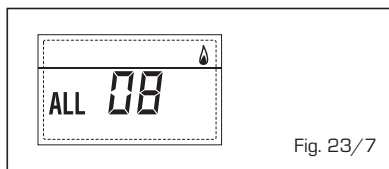

Fig. 23/7
- ANOMALIE CIRCULATION EAU "ALL 09" (fig. 23/8)